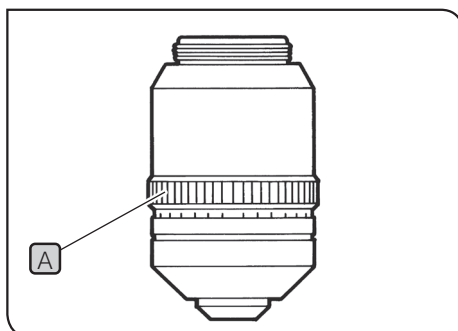

Fig.41
- If the cover glass thickness is known, set the correction collar **A** to that scale value. (Fig.41)